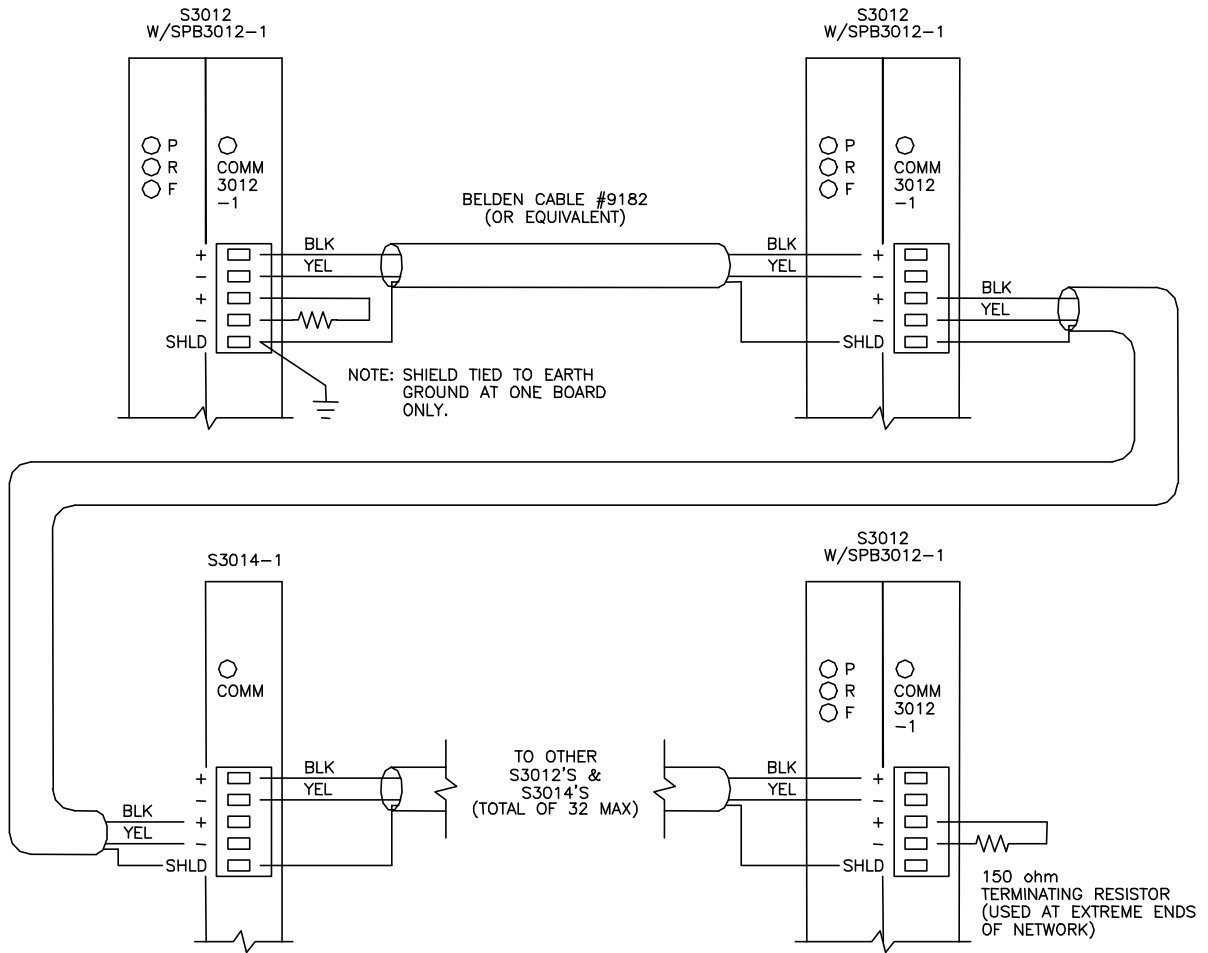

Figure 1 – Typical Network Wiring
Refer to figure 1 for a typical schematic of the network and for the pin outs of the field removable network interface connectors. When wiring the network, the following rules must be followed:
- 5) The two extreme ends of the network must be terminated with 150 ohm resistors as shown in figure 1.